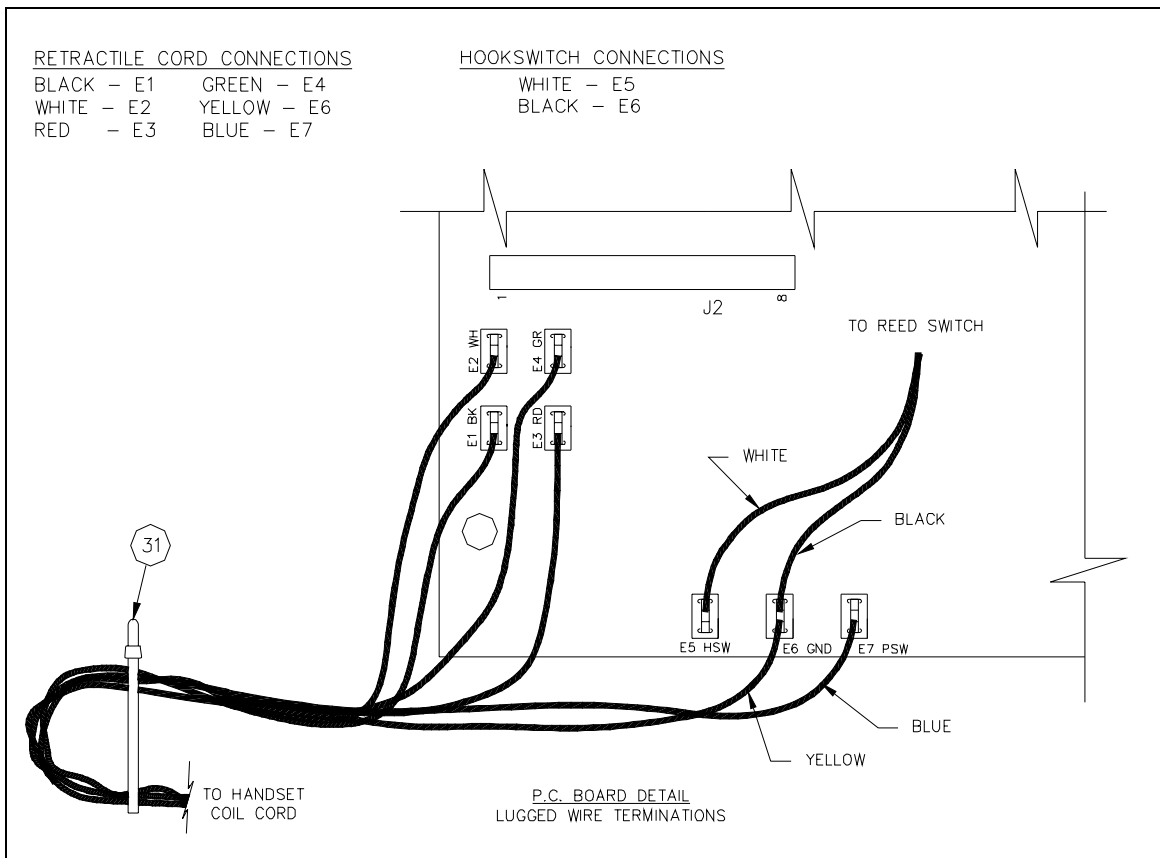

Figure 1.
2. Reconnect the spade lugs. See Figure 1.